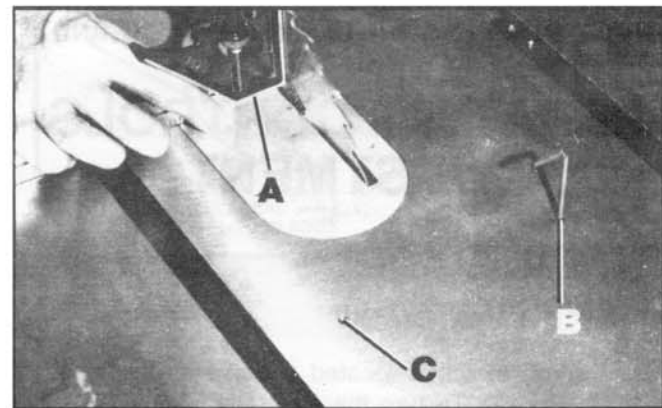

Fig. 45
4. Using a combination square (A) Fig. 45, check to see if the blade is at 90 degrees to the table surface as shown.
5. If the blade is not at 90 degrees to the table, loosen set screw (B) Fig. 45, and turn the blade tilting handwheel until you are certain the blade is at 90 degrees to the table. Turn set screw (B) clockwise until it bottoms.
8. If the blade is not at 45 degrees to the table, loosen set screw (C) Fig. 45, and turn blade tilting handwheel until you are certain the blade is 45 degrees to the table. Turn set screw (C) clockwise until it bottoms.